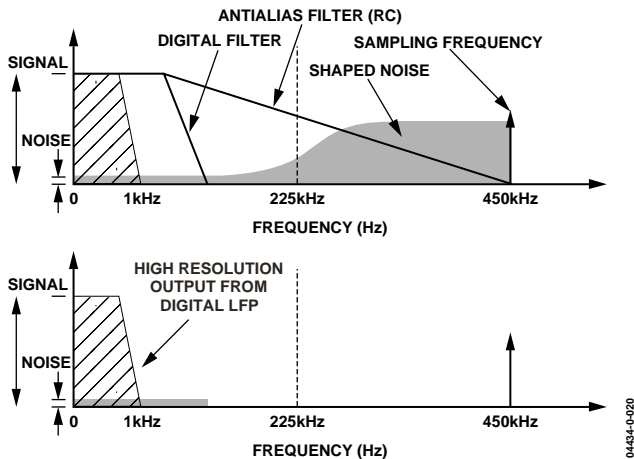

Figure 15. Noise Reduction Due to Oversampling and Noise Shaping in the Analog Modulator
The Σ - Δ converter uses two techniques to achieve high resolution from what is essentially a 1-bit conversion technique. The first is oversampling, which means that the signal is sampled at a rate (frequency) that is many times higher than the bandwidth of interest. For example, the sampling rate in the ADE7760 is CLKIN (450 kHz) and the band of interest is 40 Hz to 1 kHz. Oversampling has the effect of spreading the quantization noise (noise due to sampling) over a wider bandwidth. With the noise spread more thinly over a wider bandwidth, the quantization noise in the band of interest is lowered (see Figure 15).
However, oversampling alone is not an efficient enough method to improve the signal-to-noise ratio (SNR) in the band of interest. For example, an oversampling ratio of 4 is required just to increase the SNR by only 6 dB (1 bit). To keep the oversampling ratio at a reasonable level, it is possible to shape the quantization noise so that the majority of the noise lies at the higher frequencies. This is what happens in the Σ - Δ modulator; the noise is shaped by the integrator, which has a high-pass type response for the quantization noise. The result is that most of the noise is at the higher frequencies where it can be removed by the digital low-pass filter. This noise shaping is also shown in Figure 15.
Figure 15 also shows an analog low-pass filter (RC) on input to the modulator. This filter is present to prevent aliasing. Aliasing is an artifact of all sampled systems, which means that frequency components in the input signal to the ADC that are higher than half the sampling rate of the ADC appear in the sampled signal frequency below half the sampling rate.